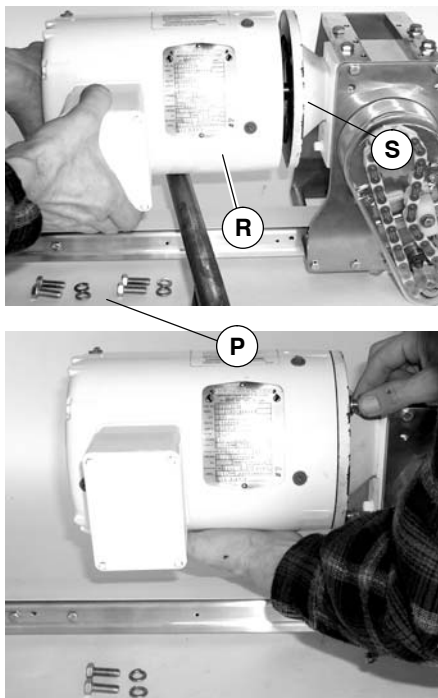

Figure 19
IMPORTANT: Be extremely careful when coupling motor (R of Figure 19) to gear reducer (S). Avoid misalignment and forcing the connection causing possible permanent gear reducer seal damage.
3. Attach motor (R) to gear reducer (S) with four screws and lock washers (P). Tighten screws to 32 ft-lb (41 Nm).